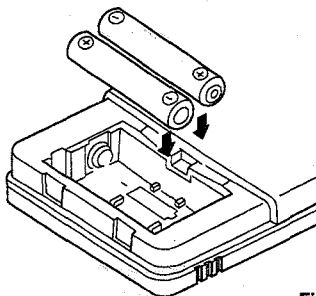

Fig. 8
2. Install batteries (AAA, R03, UM-4) as shown in Fig. 8. Be sure batteries are installed with correct polarity, (+) and (-).